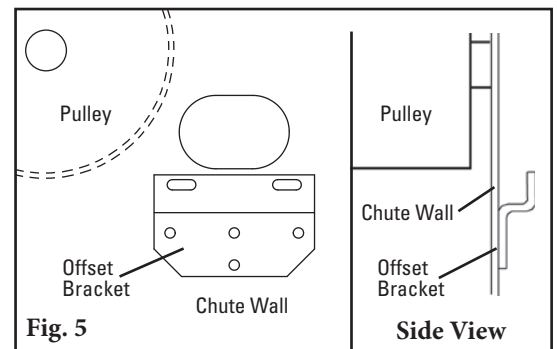

Fig. 5
8. **Install offset brackets.** Locate the offset brackets in the correct position on the chute wall and bolt or weld in place (Fig. 5).